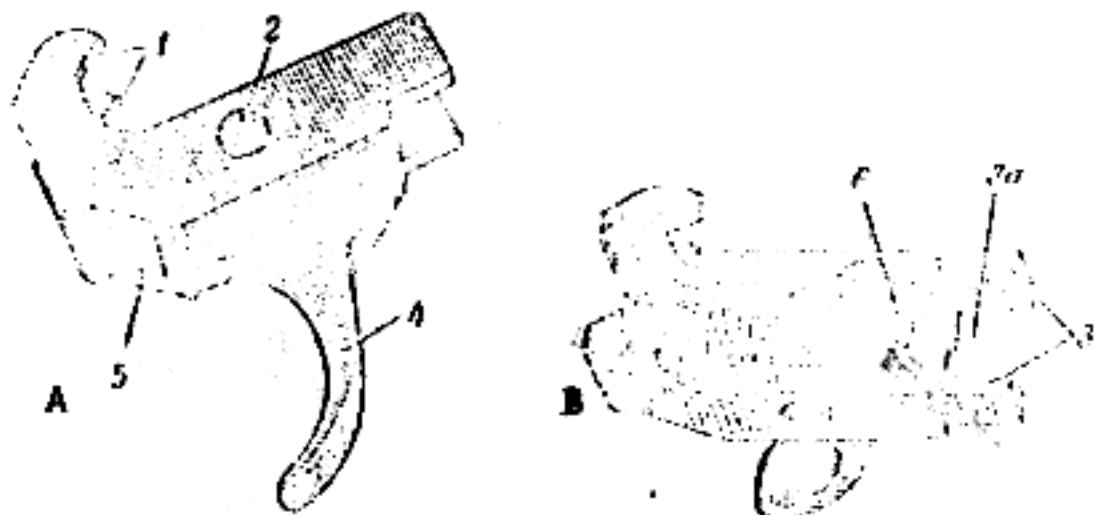

Figure 35. Trigger (0-8).
The trigger (fig. 35) serves to actuate the parts of the firing and trigger mechanism. It has a sear (1) which serves as a stop for the hammer, both for semiautomatic and full automatic fire; hole (2) for the pin; bars (3) which are acted on by the ends of the spring; recess (3a) for the base of the disconnecter; and trigger (4).